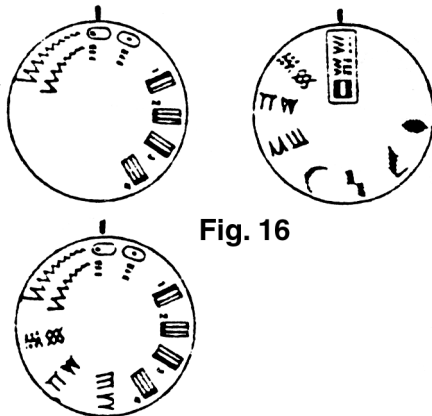

Fig. 16
- Set the control knob to the straight stitch (fig. 16).